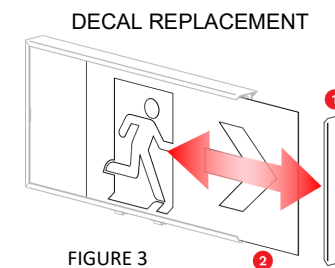

FIGURE 3
- Ensure correct decal is installed into product, if not, slide out default decal and replace with correct version (see Figure 3)